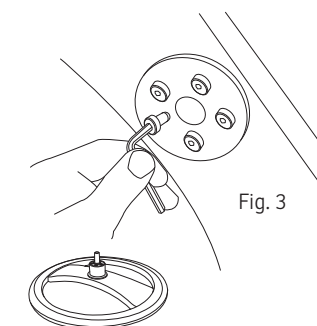

Fig. 3
Use hex key (E) to tighten each screw securely as shown in fig. 3 to finish the ringbase.